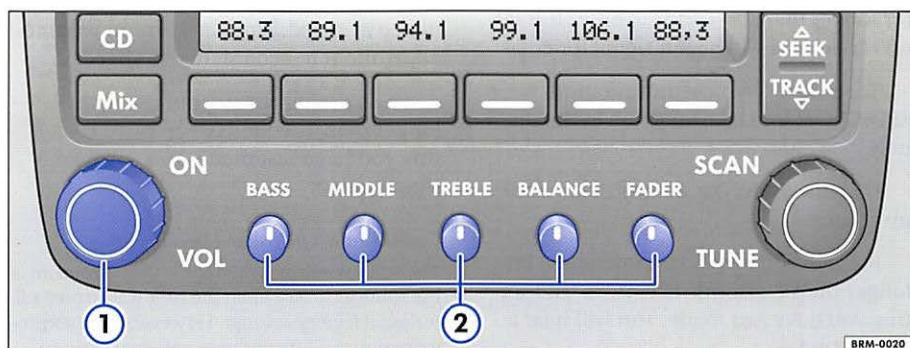

Fig. 3 Radio buttons
Press the knob ⇒ fig. 3 ① to turn the unit on / off.
- Turn the rotary knob ⇒ page 7, fig. 3 ① to adjust the volume.